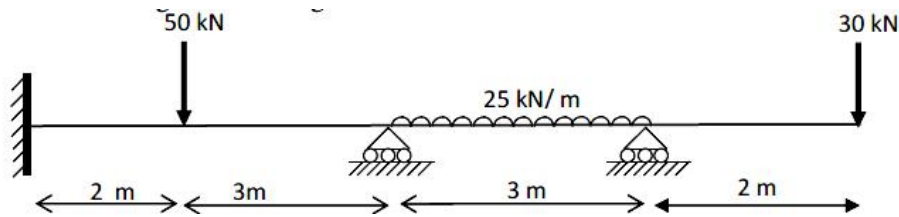

Fig.3
6. Analyse the continuous beam using Flexibility method, shown in Fig.3 and draw shear force and bending moment diagrams. Assume constant EI throughout the beam.